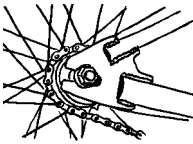

Fig. 11 Put chain on wheel sprocket.
(1) Put the chain on to the wheel sprocket (Fig.11). Then, insert the wheel into the frame dropouts and push it all the way in to the dropouts. The axle nut washers should be on the outside, between the frame and the axle nut.
(2) Put the chain on to the chainring.
(3) Pull the wheel back in the dropouts so that it is straight in the frame *and* the chain has about 1/4 inches of up-and-down play.
(4) Tighten the axle nuts as tightly as you can, using a six-inch adjustable wrench or a correctly sized box wrench.
(5) Close the brake; then spin the wheel to make sure that it is centered in the frame and clears the brake shoes. Check proper brake function with the Mechanical Safety Check(Section 2C).